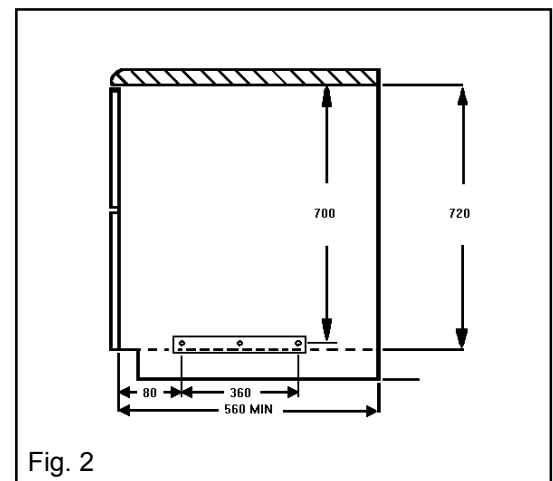

Fig. 2
- This appliance is designed to be fitted between cabinets with the recommended dimensions as shown Fig. 2 & 3.